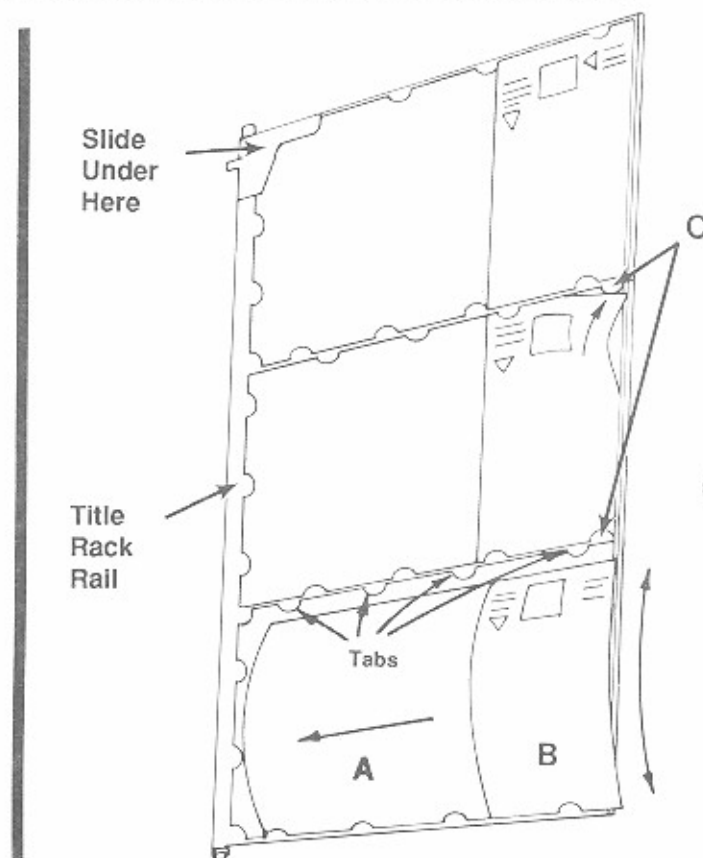

Figure 2-4. Loading The Title Rack
4. Insert the CD booklet under the top and bottom tabs of the title rack. Slide the CD booklet toward the pivot of the title rack until the booklet is trapped by the molded stops on the title page (see *figure 2-4, ref A*).
5. Insert the folded title strip under the top and bottom tabs of the title rack. Slide the title strip until the disc number shows in the opening of the title strip and the title strip is locked in place by the molded stops (see *figure 2-4, ref B*).
6. All of the tabs surrounding the CD booklet and title strip should be holding them in place. If you missed a tab, carefully tuck the loose paper under the tab as shown in *figure 2-4, ref C*.